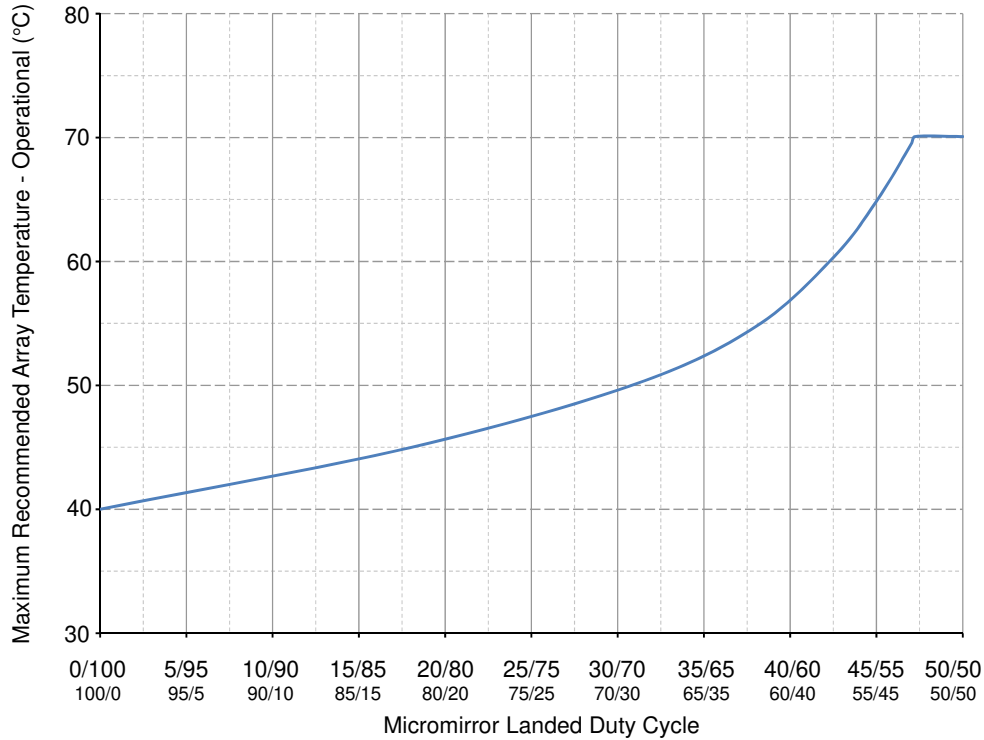

Figure 6-1. Maximum Recommended Array Temperature - Derating Curve
- (13) Per Figure 6-1, the maximum operational array temperature must be derated based on the micromirror landed duty cycle that the DMD experiences in the end application. See Section 7.7 for a definition of micromirror landed duty cycle.
- (14) Long-term is defined as the usable life of the device.
- (15) Array temperatures beyond those specified as long-term are recommended for short-term conditions only (power-up). Short-term is defined as cumulative time over the usable life of the device and is less than 500 hours.